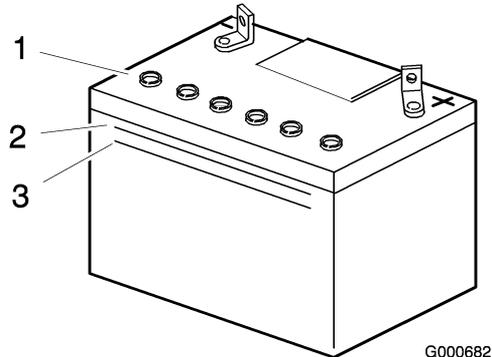

Figure 45
- Look at the side of the battery. The electrolyte must be up to the upper line. Do not allow the electrolyte to get below the lower line (Figure 45).